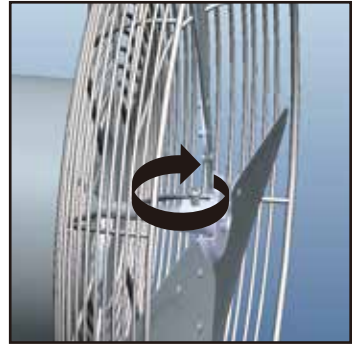

Figure 4.
- Slide the **Fan Blade** onto the motor shaft. Retighten the **Screw** on the blade assembly to secure it to the motor shaft. Make sure that the end of the screw is positioned within the flat notch on the shaft. **Figure 4**